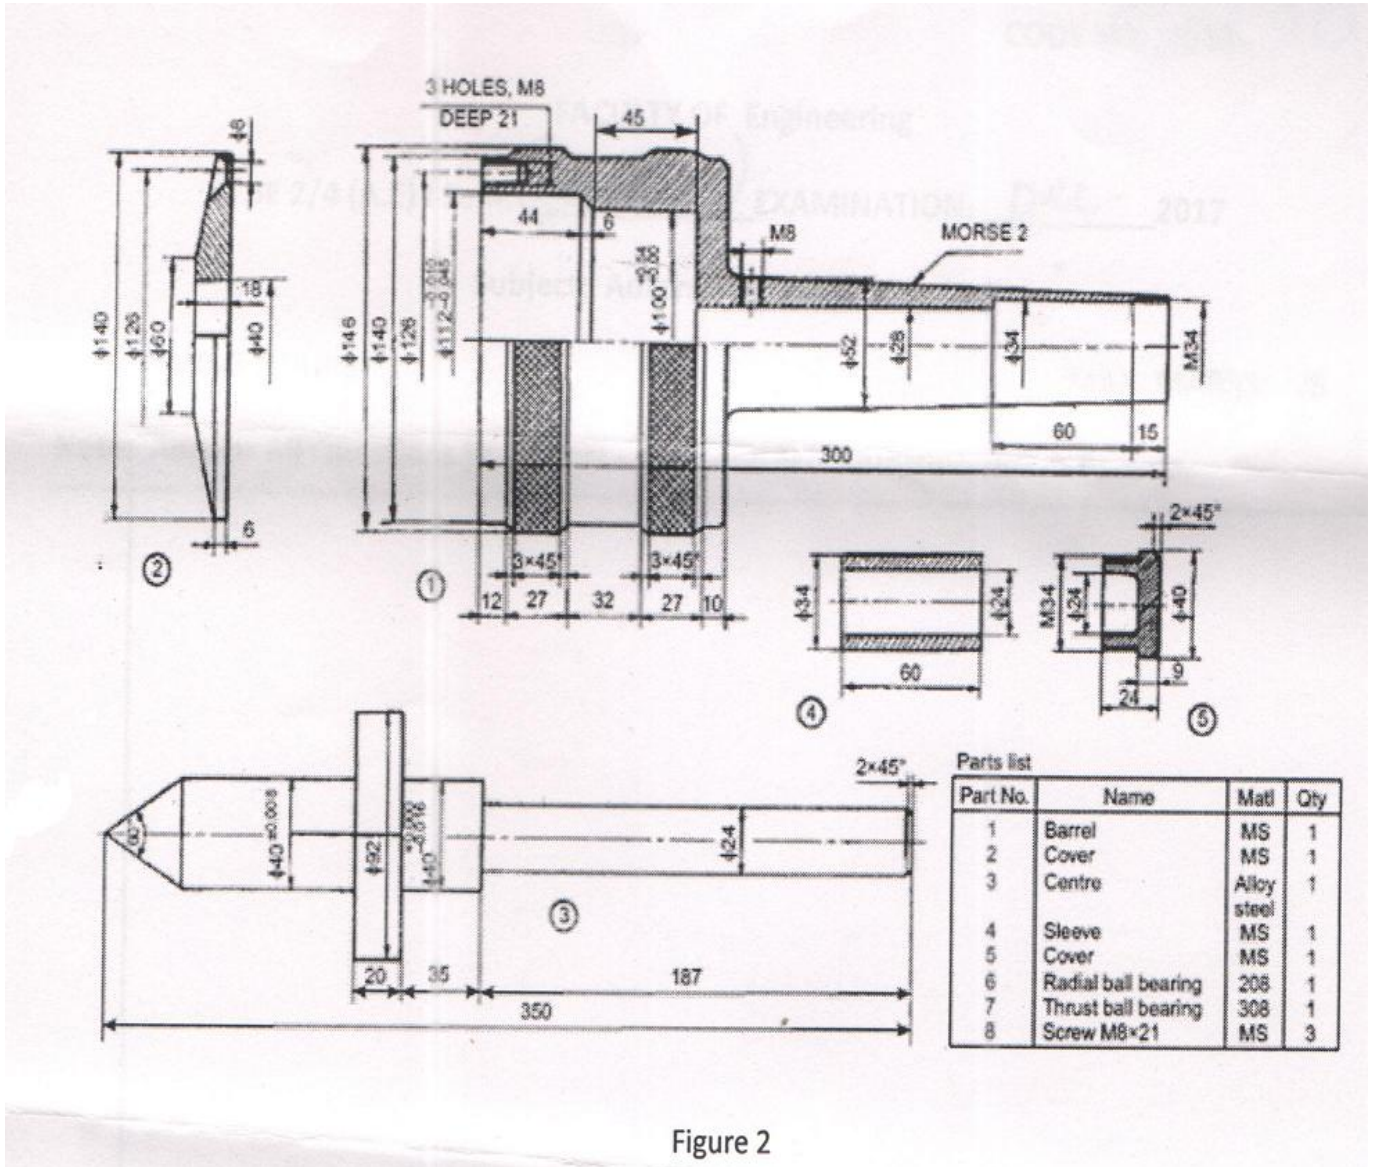

Figure 2
- 6 Assemble all the components shown in figure 2, to form Revolving centre assembly and draw: